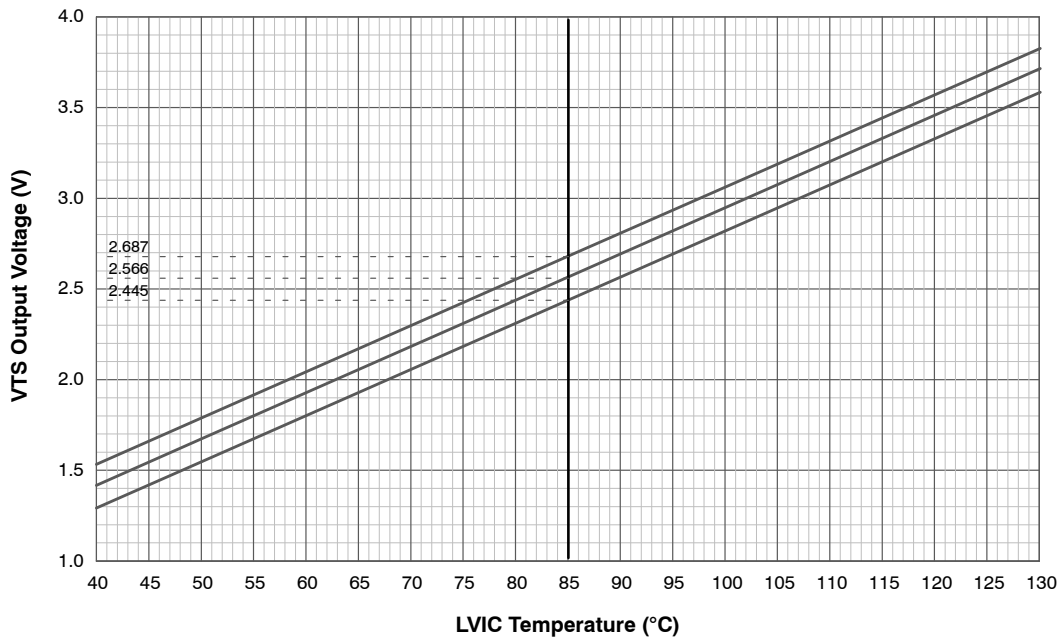
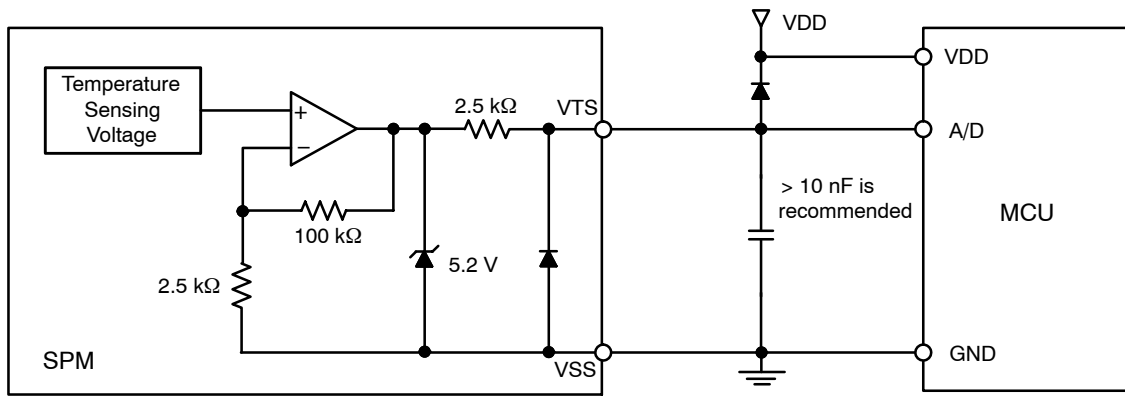

Figure 6. Temperature Profile of VTS
Figure 7. Internal Block Diagram and Interface Circuit of VTS
8. TLVIC is the temperature of LVIC itself. VTS is only for sensing temperature of LVIC and cannot shutdown IGBTs automatically. The relationship between VTS voltage output and LVIC temperature is described in Figure 6. It is recommended to add a ceramic capacitor of 10 nF or more between VTS and VSS (Signal Ground) to make the VTS more stable as described in Figure 7. Refer to the application note for this products about usage of VTS.